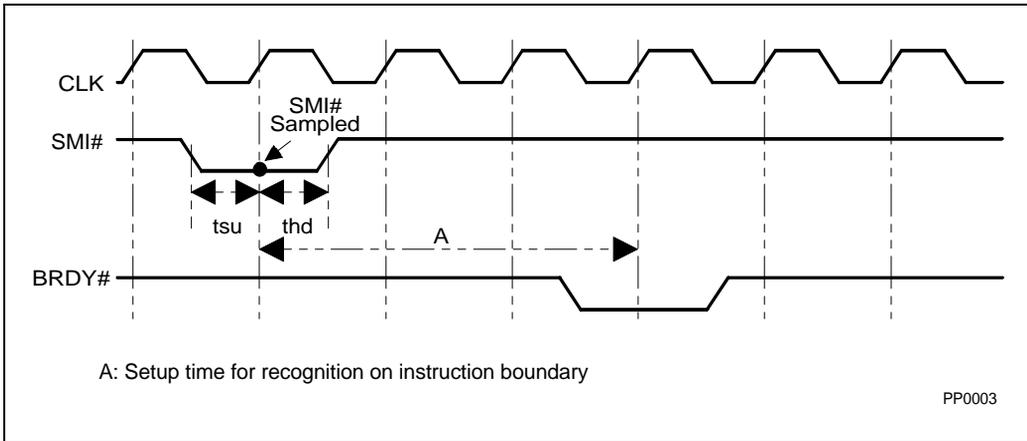

Figure 14-3. SMI# Timing
The SMI# signal is synchronized internally and must be asserted at least three (3) CLK periods prior to asserting the BRDY# signal in order to guarantee recognition on a specific instruction boundary. See Figure 14-3.